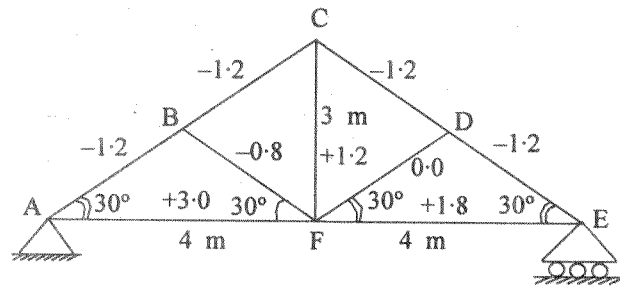

Fig. 9
17. Determine graphically the horizontal displacement of the roller support for the truss shown in Fig. 9. The deformations in mm are marked against each member, positive sign indicating elongation.